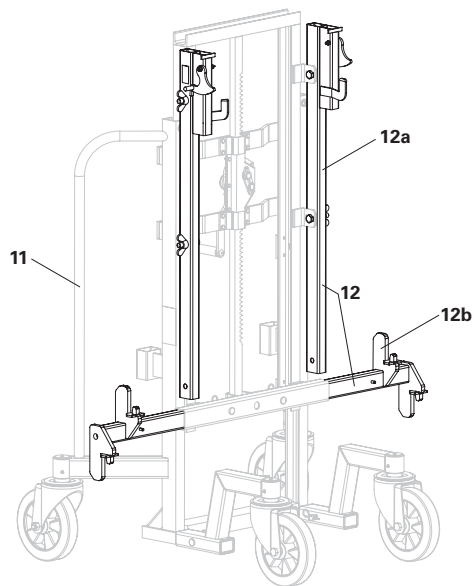

Fig. A2.02
1. Fit adapter (12a) onto the trolley with winch unit (11). (Fig. A2.02)
2. Fit telescopic tube (12b) onto the trolley with winch unit (11). (Fig. A2.02)